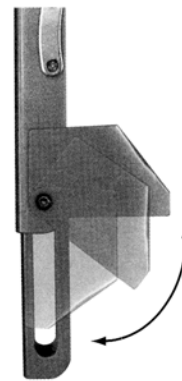

Fig. 5 - Set the tilt angle
6. Set the tilt angle by adjusting the foot located on the bottom of each arm (Fig. 5). When the foot is fully extended, the tilt is approximately 0 degrees. Make sure both feet are set to the same angle.
5. To change the tilt position, have one person carefully pull the bottom of the display away from the wall. A second person can then adjust the feet on the bottom of each mounting arm to the desired position (Fig. 5). Once finished, carefully lower the display back against the wall.